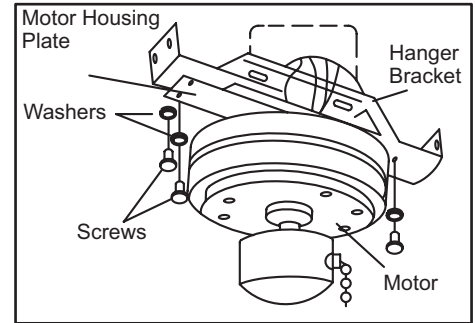

Figure 7
1. Swing the motor assembly up into position under the mounting bracket. Secure the bracket to the plate with the screws and washers provided (Figure 7).